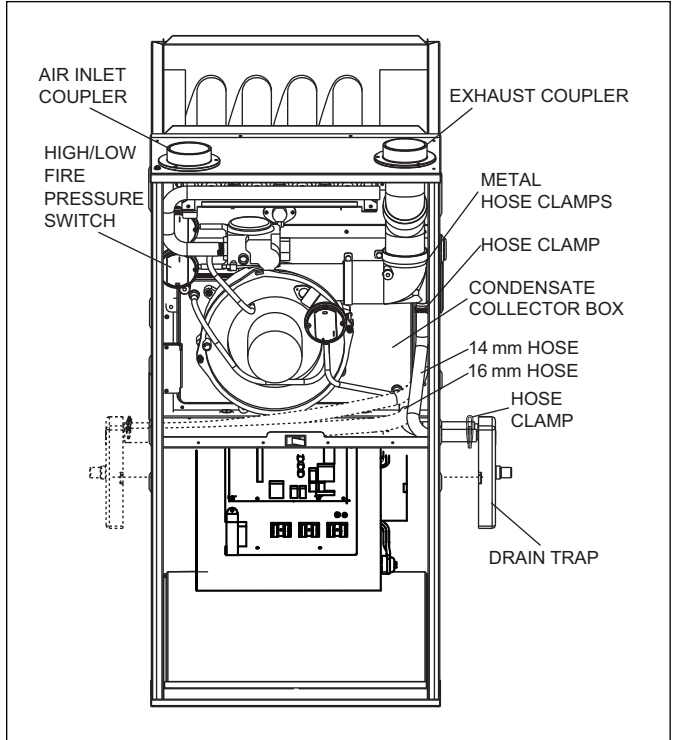

Figure 15 Upflow Installation, Top Venting
5. Connect  $\Phi 16$  mm hose between condensate collector box and drain trap and connect  $\Phi 14$  mm hose between inducer drain port and drain trap. (see Fig. 15).